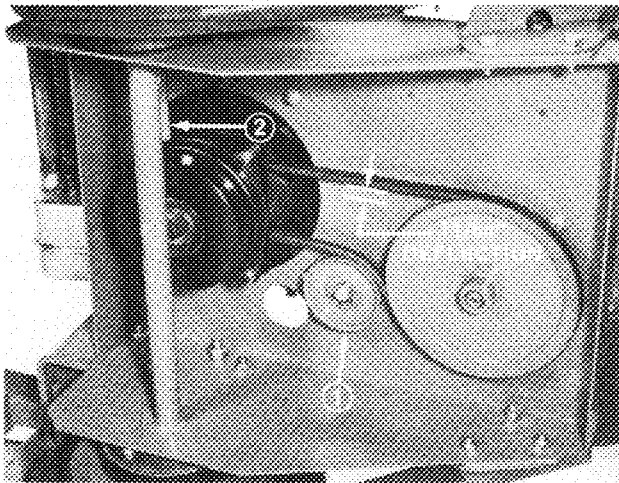

Figure 25
1. Loosen capscrew and flange nut securing idler pulley to frame (Fig. 25). Slide pulley outward relieving belt tension.
2. Remove left front engine mounting bolt securing clutch retainer to frame (Fig. 25). Unhook retainer from clutch and remove retainer.
3. Disconnect in-line wire connector and remove belt from drive pulley and clutch (Fig. 25).
6. Position and secure idler pulley to frame so belt deflection is no more than $11/64$ " when 5-1/2 lb of force is applied to midspan of long leg of belt (Fig. 25).
1. To adjust clutch, tighten or loosen locknuts on flange studs (Fig. 25).